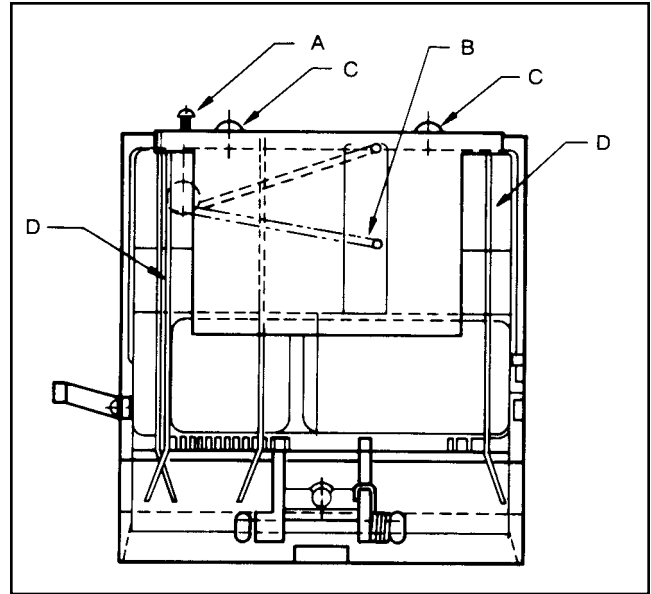

Figure 4
2. Replace the base cover with the attached printer. **Avoid pinching the wires between the base cover and base.** Secure with the, seven (7) socket head screws previously removed.
4. Make any necessary adjustments by referring to Figure 4.
- a. Depth adjustment - loosen screw (A), then position lever (B). Retighten screw (A).
- b. Width adjustment - remove two screws (C). Position guides (D). Replace screws (C).